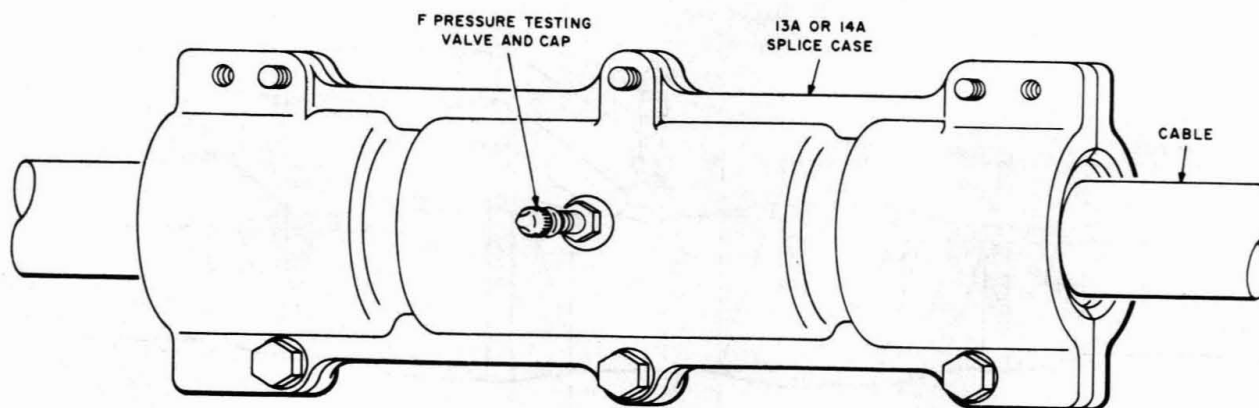

Fig. 17—Splice Case With F Pressure Testing Valve Installed
(5) To place an F pressure testing valve in the 13A or 14A splice case, coat the threads of the valve with teflon pipe sealing tape and screw the valve into the pressure testing flange on the splice case (Fig. 17).